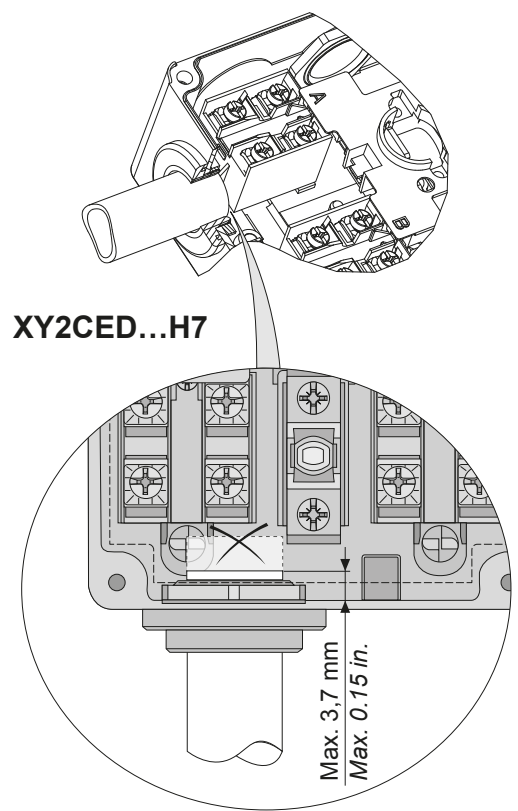

Fig.12
- The replacement of the rearming button and/or of the pilot light must comply with the diagram (fig. 12).